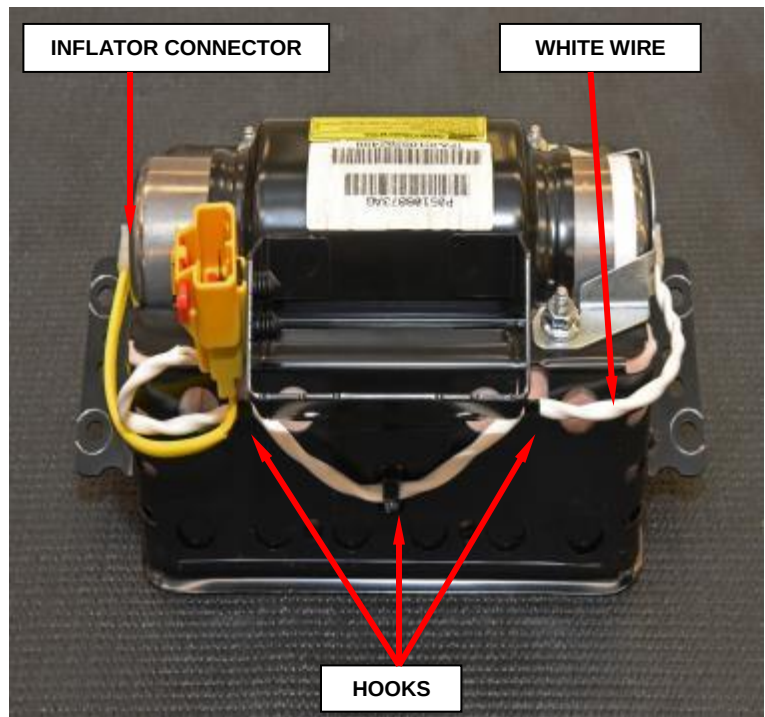

Figure 107 – Retrofit Complete
1. Insert the cushion, pulling out both side flaps (Figure 107).